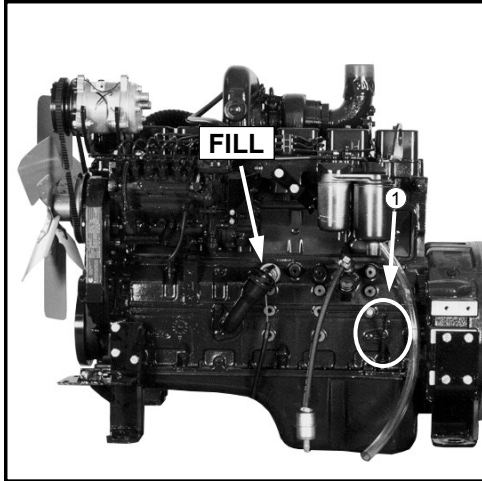

FIG 7.1
OIL LEVEL - The engine oil level dipstick is located on the left-hand side of the diesel engine (fig. 7.1, item 1) and the right-hand side of the gas engine (fig. 7.2). Never operate the engine with the oil level below the “L” (low) mark or above the “H” (high) mark. Wait at least five minutes after shutting off the engine to check the oil level; this allows time for the oil to drain to the oil pan. Check the engine oil level daily.